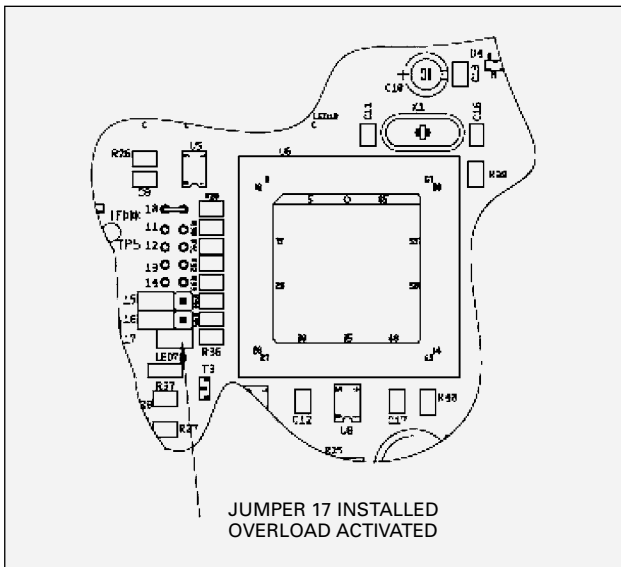

Figure 20: Jumper Location - Overload Activation
2. Place the jumper across the two (2) pins at location 17 on the main PC board (See Figure 20).